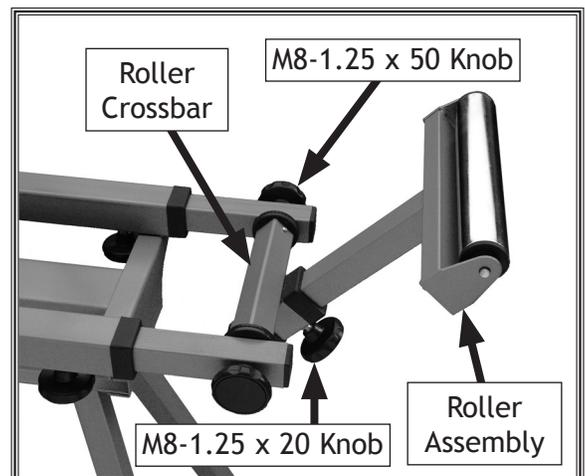

Figure 4. Support roller assembly.
6. Place the roller crossbar between the extension arms and secure them with the M8-1.25 x 50 knobs, as shown in Figure 4.
7. Slide the roller assemblies into the crossbars and secure them with the M8-1.25 x 20 knobs (see **Figure 4**).